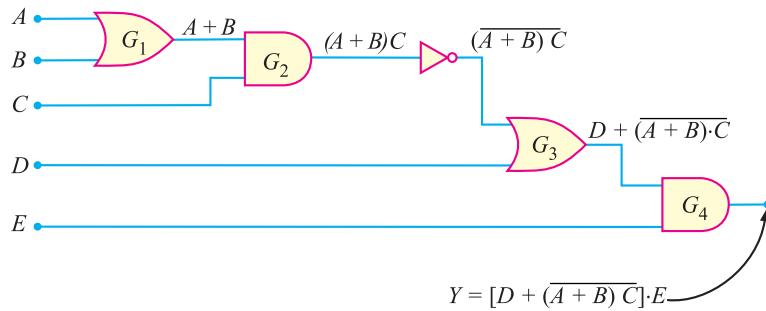

Fig. 26.40
**Example 26.23.** Write the Boolean expression for the digital circuit shown in Fig. 26.40.